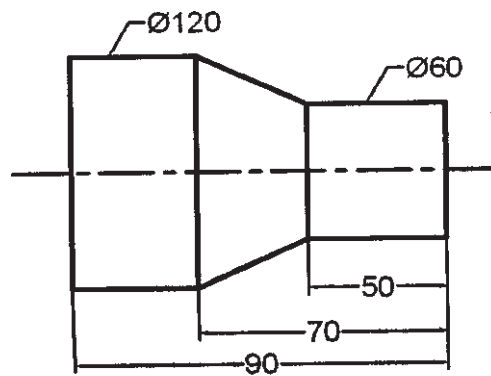

Fig. 2
- Q9) a)** Write a manual part program for finishing a forged components as shown in the Fig. 2 (all dim are in mm). Assume the speed & feed on the turning center as 550 rpm & 0.3 mm/rev. assume 1 mm material is to be removed radially from external diameter. [8]